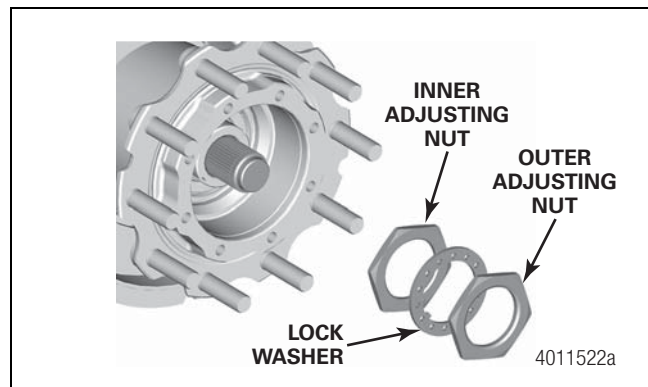
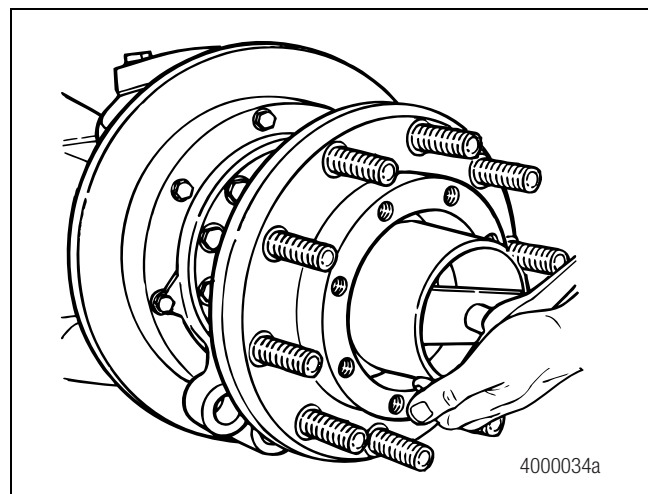

Figure 4.10
Figure 4.11
8. Remove the outer adjusting nut, lock washer and the inner adjusting nut from the spindle. Figure 4.10. Use a 4-inch socket wrench to remove the adjusting nut. Figure 4.11.